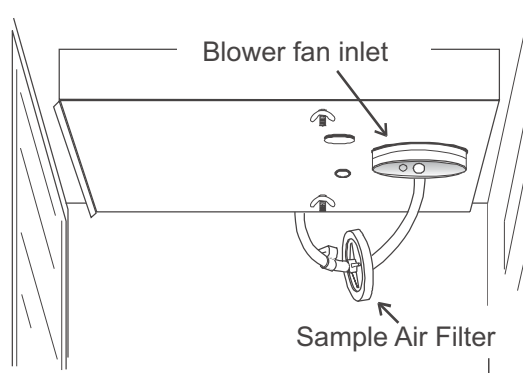

Figure 5-9
5.9 Replacing Sample Air Filter (Figure 5-9)